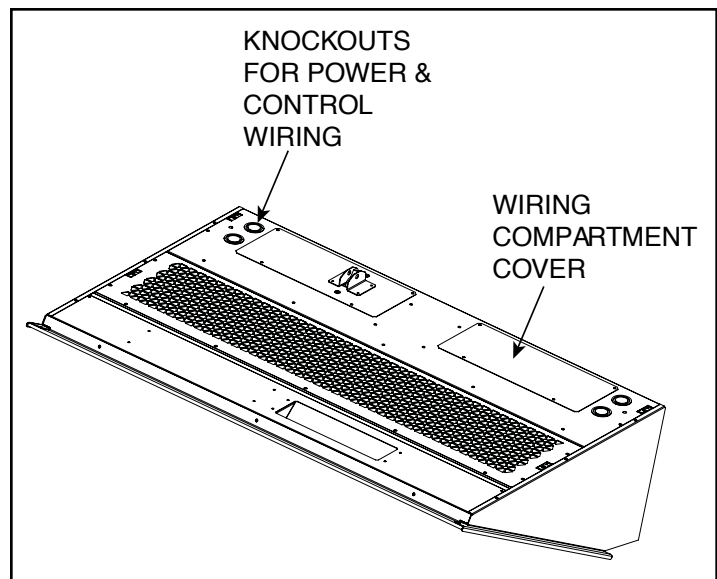

Figure 7 - Electrical Connections
- A. A separate line voltage supply with a suitable branch circuit protection device should be run directly from the main electrical panel to the unit. A disconnect switch for each branch circuit is a required part of this installation. See the voltage label on the unit for circuiting and total electrical load. The wiring diagram is located in the wiring compartment, located on the top of the unit. **See Figure 7.**
The heater circuit may be controlled by an optional remote thermostat or through the built-in Intelliswitch™ thermostat located on top of the air curtain. Overheating protection is provided by auto reset thermal cutouts built into the heater coil assembly (see the wiring diagram located in the wiring compartment). **See Figure 7.**